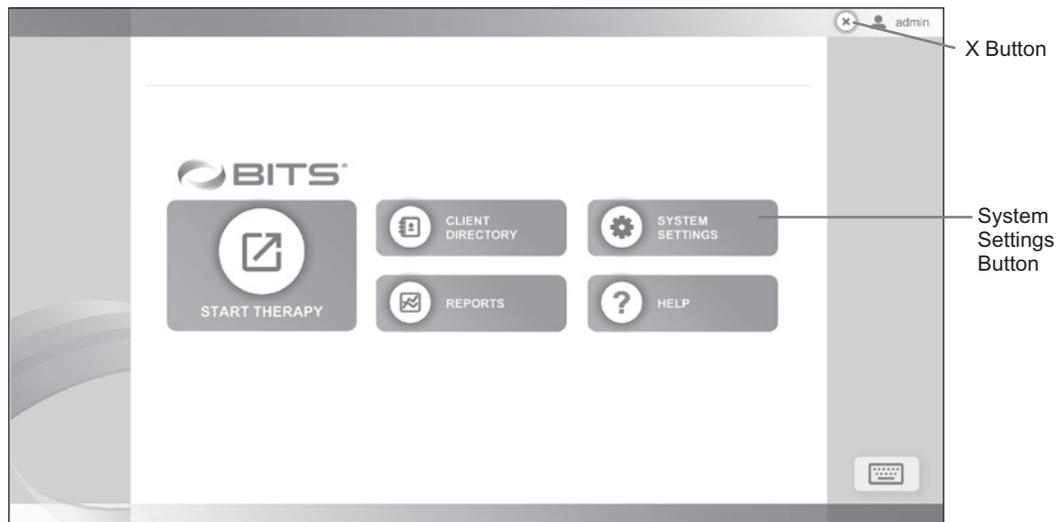

Figure 28: Home Screen
- The Home Screen will open. See Figure 28.
1. From the Home Screen, press the System Settings Button. See Figure 28.